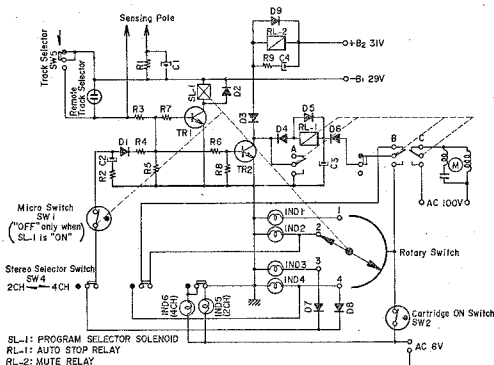

Fig. 15
Explanation of this operating principle using Fig. 15:
1. At Cartridge Mode (See Fig. 15)